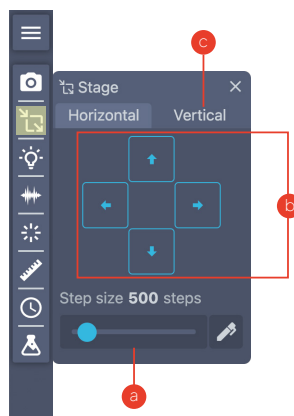

Figure 7: XYZ stage motion controls.
3. Use the XYZ motion controls (Fig. 7) to adjust the stage position to bring the microfluidic device into camera view.